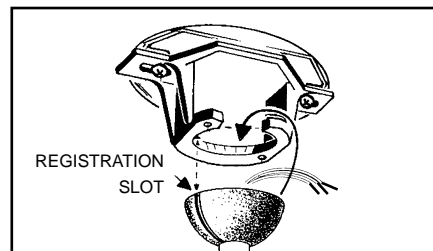

Fig.9
**Step 6.** Now lift motor assembly into position and place downrod ball into hanger bracket. Rotate until the check groove has dropped into the registration slot and seats firmly. Rod should not rotate if this is done correctly. (Fig. 9)